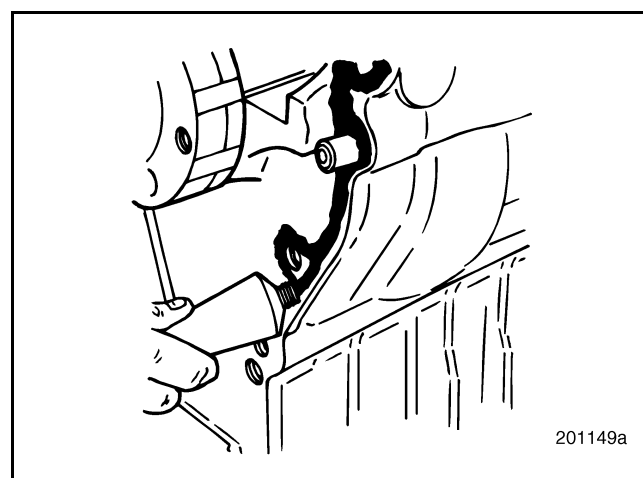

Figure 338 — Applying Sealant
4. Apply an even coat of RTV silicone (approximately a 1/16-inch [2 mm] bead) to the flywheel housing mounting surface of the cylinder block. Refer to Figure 338.